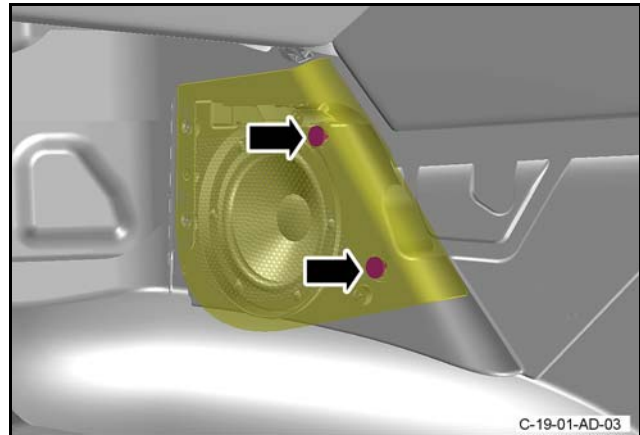

Figure 4
18. Release the grille for the footwell speaker from the two tabs that attach it to the footwell speaker and remove the grille (refer to Figure 4).